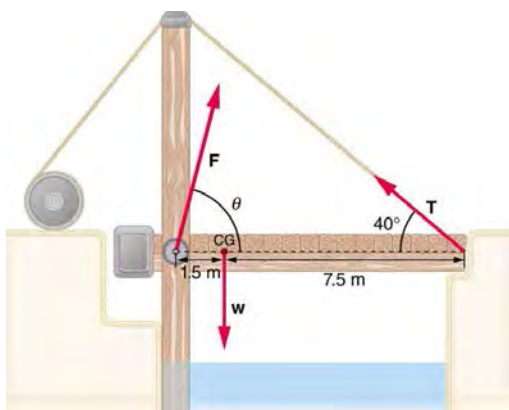

Figure 9.34 A small drawbridge, showing the forces on the hinges (F), its weight (W), and the tension in its wires (T).
- Suppose the weight of the drawbridge in **Figure 9.34** is supported entirely by its hinges and the opposite shore, so that its cables are slack. (a) What fraction of the weight is supported by the opposite shore if the point of support is directly beneath the cable attachments? (b) What is the direction and magnitude of the force the hinges exert on the bridge under these circumstances? The mass of the bridge is 2500 kg.
13. Suppose a 900-kg car is on the bridge in **Figure 9.34** with its center of mass halfway between the hinges and the cable attachments. (The bridge is supported by the cables and hinges only.) (a) Find the force in the cables. (b) Find the direction and magnitude of the force exerted by the hinges on the bridge.